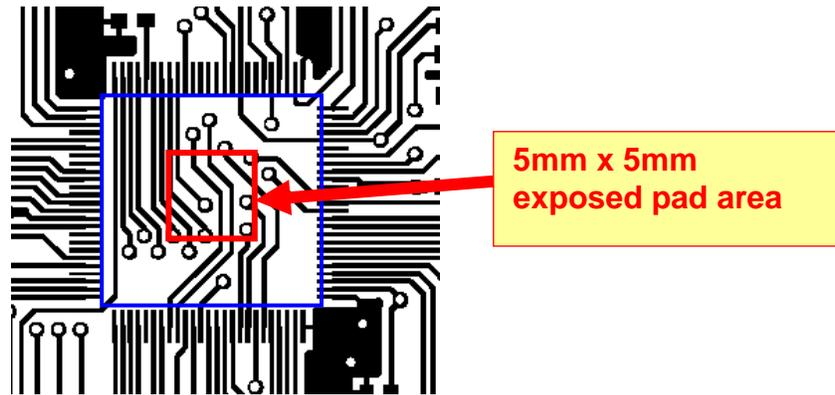

Figure 18: Problematic Routing underneath 71M6513 Chip
2. It is unrelated to EMI (but very important none the less) when using the 71M6513 chip, to make sure that no traces or vias are located in the area that is covered by the 5mm x 5mm exposed ground pad (for an example, see Figure 18, showing routing patterns that are not recommended).